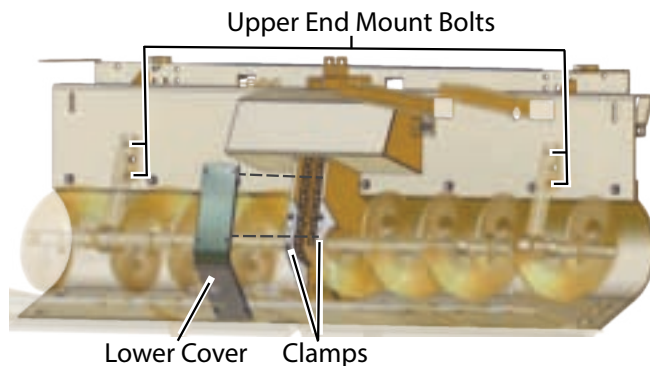

Figure 5-35. Lower Cover and Clamps (Top View)
4. Remove lower auger bearing cover, then remove auger clamps on each side. **(Figure 5-35)**